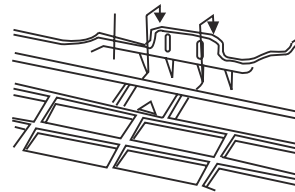

Fig. 9-6
3. Hang the claw behind the indoor unit on the pothook on the wall rear panel, move the unit left and right to check if the body is firm (as shown in Fig 9-6).